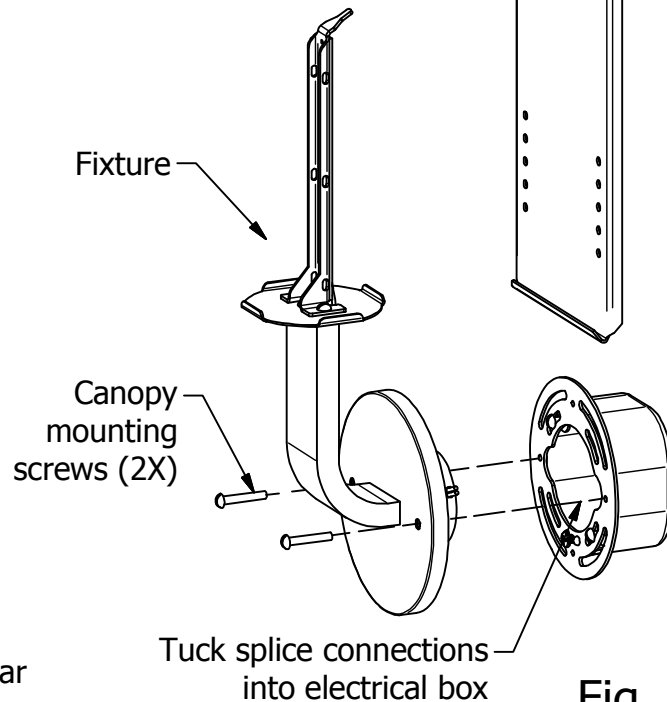

Fig. 3
- Attach cage mounting bracket to wall using supplied mounting screws or other appropriate hardware. At minimum use two (2) screws: One each in top and bottom halves of bracket, and one each in left and right halves of bracket.
- (Fig.3) Holding the fixture close to the electrical box, connect the fixture wires to the house wires. Make connections as appropriate for your house wiring.